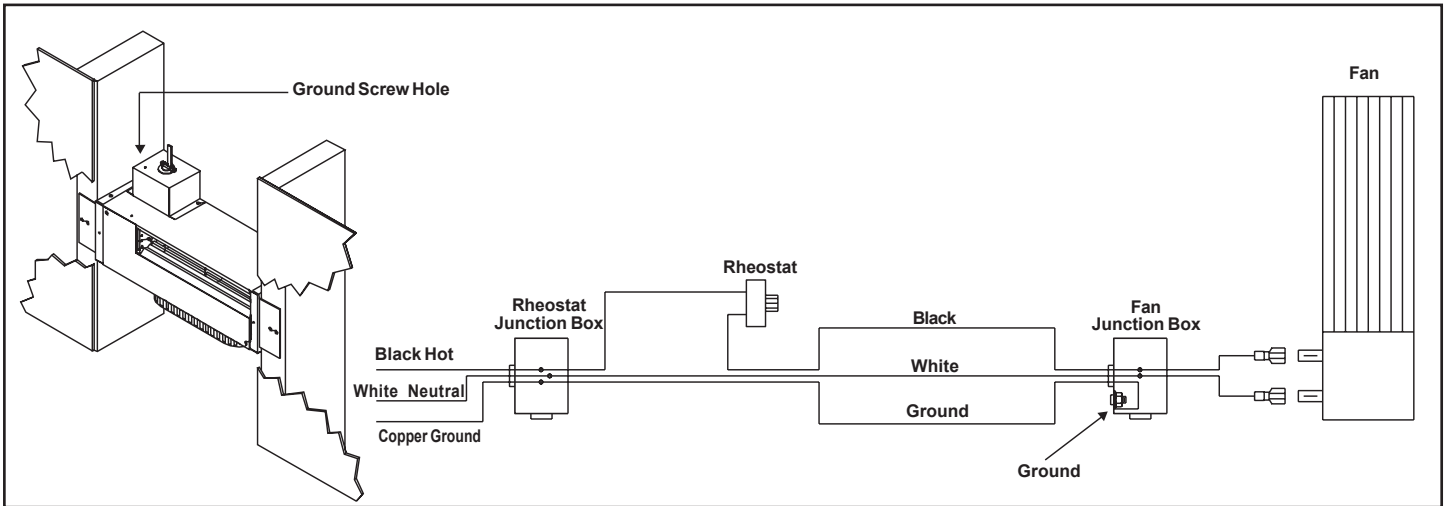

Figure 7 Rheostat Control
9. Wire 110 VAC service TO the wall Rheostat and FROM the wall Rheostat to the fan junction box. Use wire nuts to secure the 110 VAC service wires to the hot and neutral fan wires and screw the 110 VAC ground wire to the fan junction box. See Wiring Diagram - Figure 7.